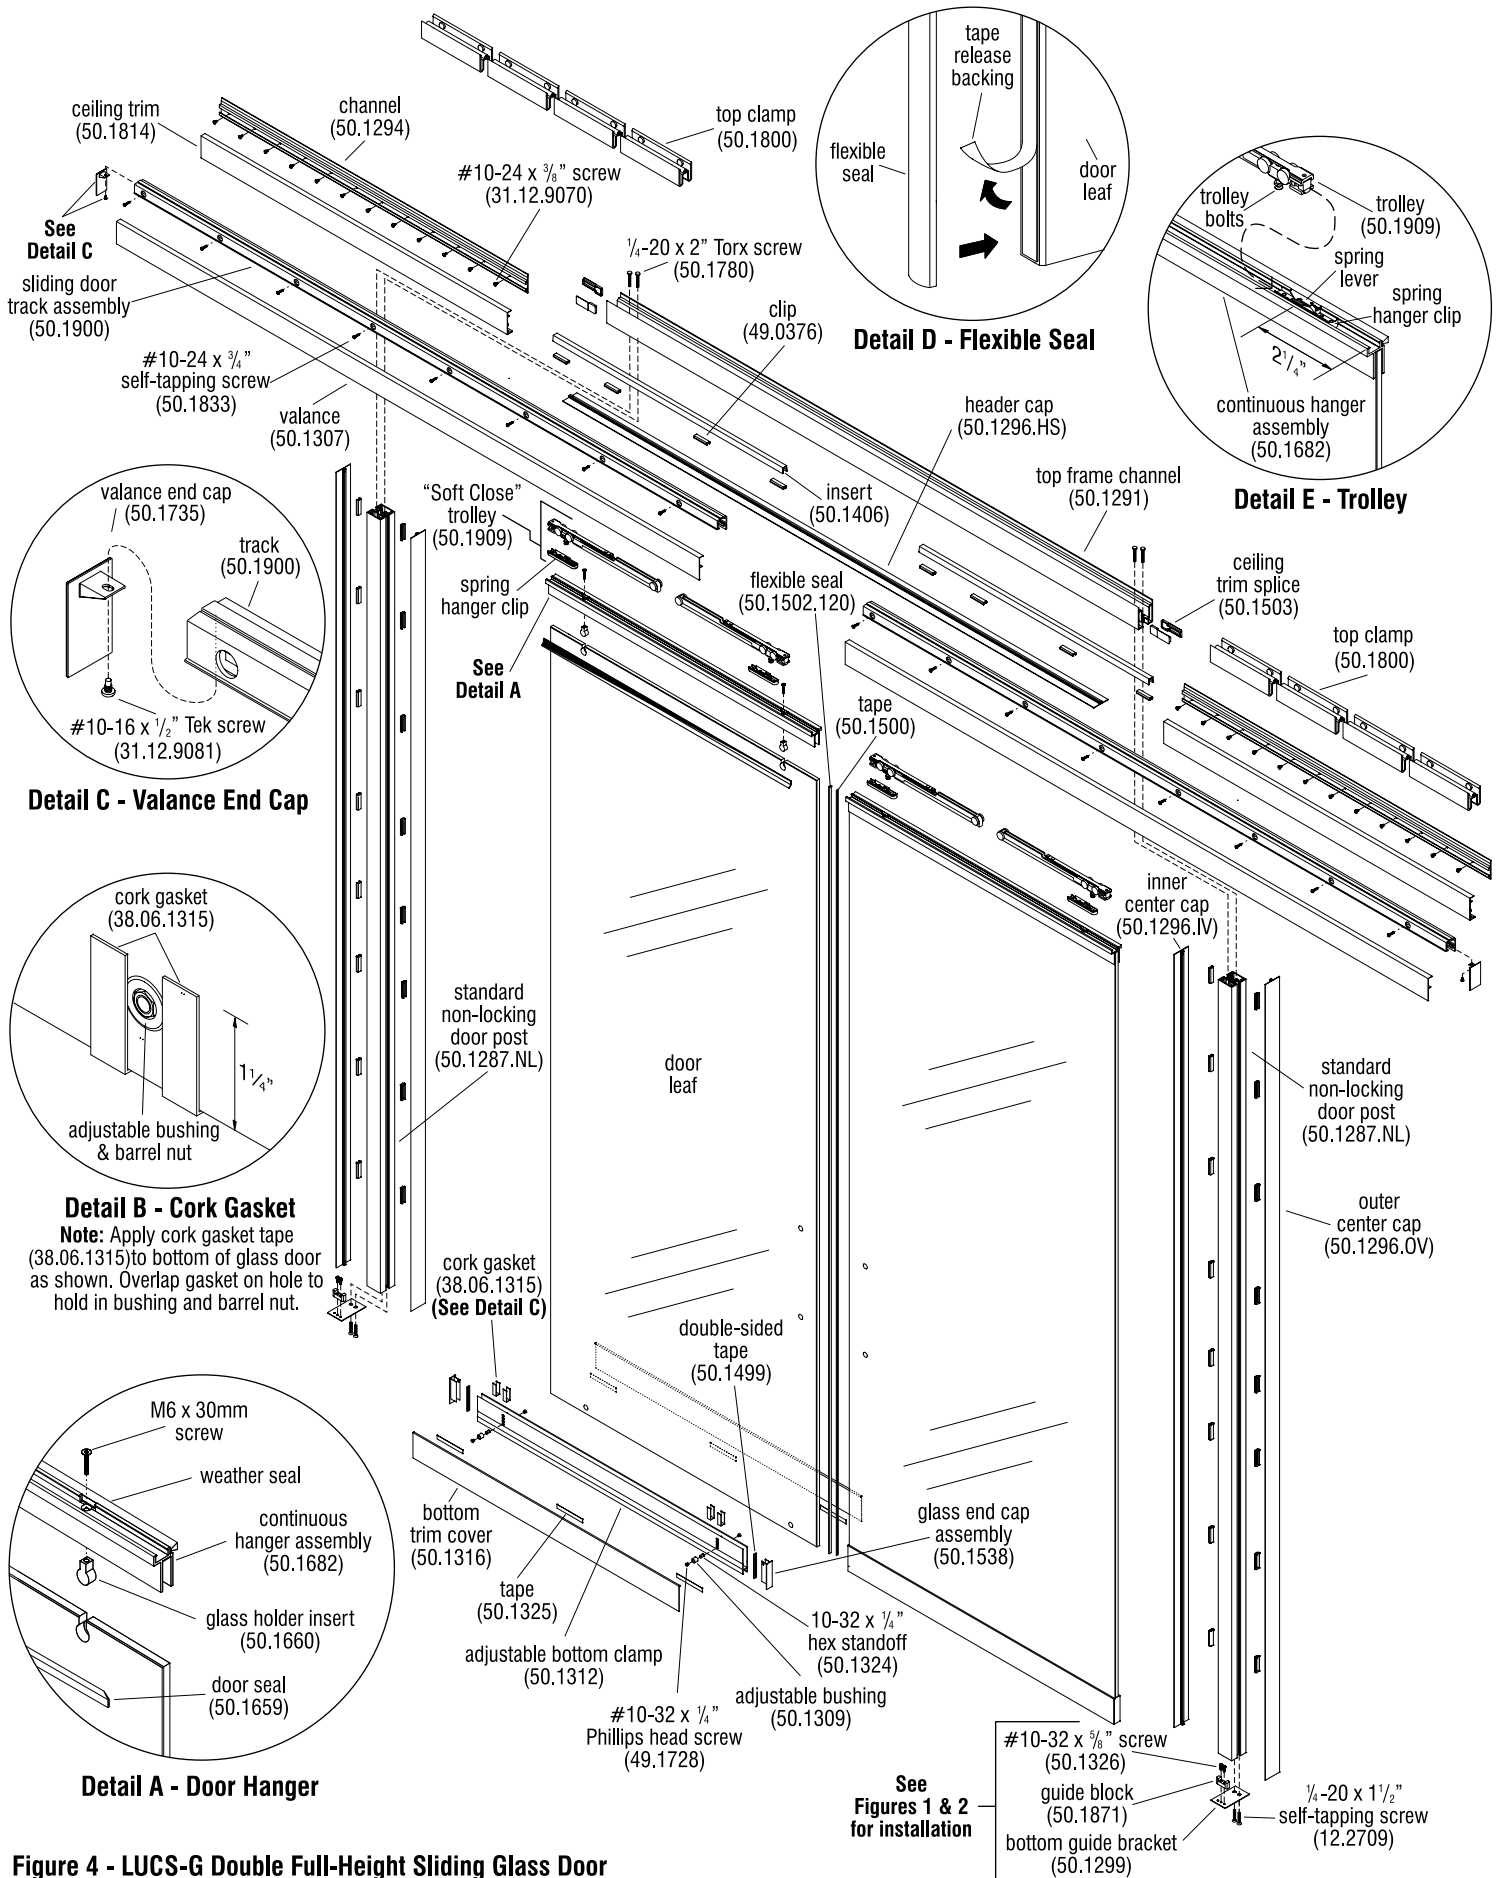

Figure 4 - LUCS-G Double Full-Height Sliding Glass Door
- To determine what length the first "standard non-locking door post" must be cut to, begin by installing into position a sample piece of ceiling trim onto the ceiling rail at the door post location. Determine the length by measuring from the bottom of the installed sample ceiling trim, down to the floor at that post location and record that measurement. If carpet is present, account for extra length that the post will sink into carpet, and also remove length for the $\frac{1}{16}$ " thickness of the bottom guide bracket (50.1299) (Figure 4).
- Locate the first standard non-locking door post, measure from the top of the post to the bottom and mark the recorded measurement onto the post at the bottom end. Cut the bottom of the post off square at that length (Figure 4).
- Locate the second standard sliding door strike post, measure from the top of the post to the bottom and mark the recorded measurement onto the post at the bottom end. Cut the bottom of the post off square at that length (Figure 4).
- Stand both door posts up under the ceiling rail at their respective installation locations, take into account the bottom guide brackets which will be installed to the standard non-locking door posts later, and check that the posts are cut to the correct height. Remove the sample ceiling trim once the posts are known to be the correct height (Figure 4).
- Lay the posts with the top frame channel onto a soft, protective surface on the floor in the correct orientation. Secure the pieces together using four $\frac{1}{4}$ -20 x 2" Torx screws (50.1780) (Figure 4).
- Position the channel (50.1294) onto the additional panel clamps and push it up until it fully seats against the ceiling rail and against the sliding door frame. Secure the channel to the clamps using twelve #10-24 x $\frac{3}{4}$ " screws (31.12.9070). Assure the screws secure into the clamps and not into gaps between them (Figure 4).
- Install the ceiling trim (50.1814) over the installed channel (50.1294), butting it against the top frame channel (50.1291) (Figure 4).
- Locate the sliding door track (50.1900) and assure it is clean and free of debris. With the assistance of two people, position the track against the top frame channel and the ceiling trim about $1\frac{1}{8}$ " from the bottom of the top frame channel to the bottom of the track (Figure 4). Mark each screw hole.
- Position the track over the pilot holes and secure using eight #10-24 x $\frac{3}{4}$ " self-tapping screws (PC.12.0006) (Figure 4).
16. Insert the trolley assembly (soft close trolley assembly, 50.1909 or bumper stop trolley assembly, 50.1680 - not shown) into the door track (Figure 4). See separate instructions included with the door stops and trolleys.
17. To hang the sliding door leaf, begin by attaching the continuous hanger assembly (50.1682) to the top of the door leaf. First, apply a strip of seal (50.1659) across the top of the door leaf aligning the non-taped edge to the top edge of the door leaf (Figure 4 & Detail A).
18. Next, remove the M6 x 30mm screws from the glass holder inserts (50.1660) and place the glass holder inserts into the notches at the top of door leaf. Then, slide the continuous hanger assembly over the top of the door leaf (Figure 4 & Detail A).
19. Orient the continuous hanger assembly so the weather seal side faces the door frame. Attach the hanger to the glass using the two M6 x 30mm screws through the countersunk holes in the top of the hanger assembly (Figure 4 & Detail A).
21. With the assistance of a second person, hang the door by first aligning the trolley bolts with the spring hanger clips. The trolley bolts slide into the spring hanger clips and lock into place with spring levers (Figure 4 & Detail E).
22. To attach the adjustable bottom clamp (50.1312), make sure the door leaf is partially positioned over the door opening. Then insert two adjustable bushings (50.1309) into the two holes in the bottom of the door leaf (Figure 4).
23. Apply four strips of gasket cork (38.06.1315) two on each side of the two holes, overlapping each hole a little to retain the bushing of each side. Start at the top of the hole and go down around the bottom edge of the glass to the top of the hole on the opposite side of the glass (Figure 4 & Detail B). Note the cork height of 1 1/4" at each side.
24. Slide the adjustable bottom clamp on the door leaf and over the guide block from the opposite end of the sliding door strike post (Figure 4).
25. Spin a 10-32 hex standoff (50.1324) on one of the #10-32 x 1/4" Phillips head screws (49.1728). Do the same for the second set (Figure 4).
26. Position the adjustable bottom clamp to approximately 1/2" off the floor and install both the screw and hex standoffs through the two bushings (Figure 4).
27. Install both the second screws into the opposite end of the hex standoffs (Figure 4). Do not fully tighten.
so that the cap is tight up against the edge of the glass (Figure 4).
29. Tighten the #10-32 x 1/4" Phillips head screws to secure the adjustable bottom clamp to the door leaf (Figure 4).
30. Mark and cut the bottom trim covers (50.1316) to the width of the glass, then remove the release paper from the adhesive tape pads on the outside of the clamp (Figure 4).
31. Hang the covers on the top of the bottom clamp and rotate down. Press on the covers to make sure the covers and the tape are fully seated on the adjustable bottom clamp (Figure 4).
32. Adjust the height of the door leaf by adjusting the bolts and nuts on the trolley assembly (50.1909) as required (Figure 4).
33. Measure the distance from the outside of the door frame to the end of the adjacent panel(s) and cut the valance (50.1307) to length (Figure 4).
34. Position the valance end caps (50.1735) on both ends of the track and secure using two #10-16 x 1/2" screws (31.12.9081) (Figure 4 & Detail C).
35. Install the valance onto the track and end caps (Figure 4).
36. At the edge of one glass door panel, where the two panels meet, use Silane Glass Treatment AP115 to clean the edge of one door leaf. Apply the mounting tape (50.1500) to the clean edge of the door leaf (Figure 4 & Detail D).
37. Before applying the seal to the edge with mounting tape, clean the mounting surface of the seal with Silane Glass Treatment AP115. Peel away the tape release backing from the glass edge and apply the flexible seal (50.1502.120) to the door leaf. Use the rigid seal alignment tool to install the flexible seal (Figure 4 & Detail D).